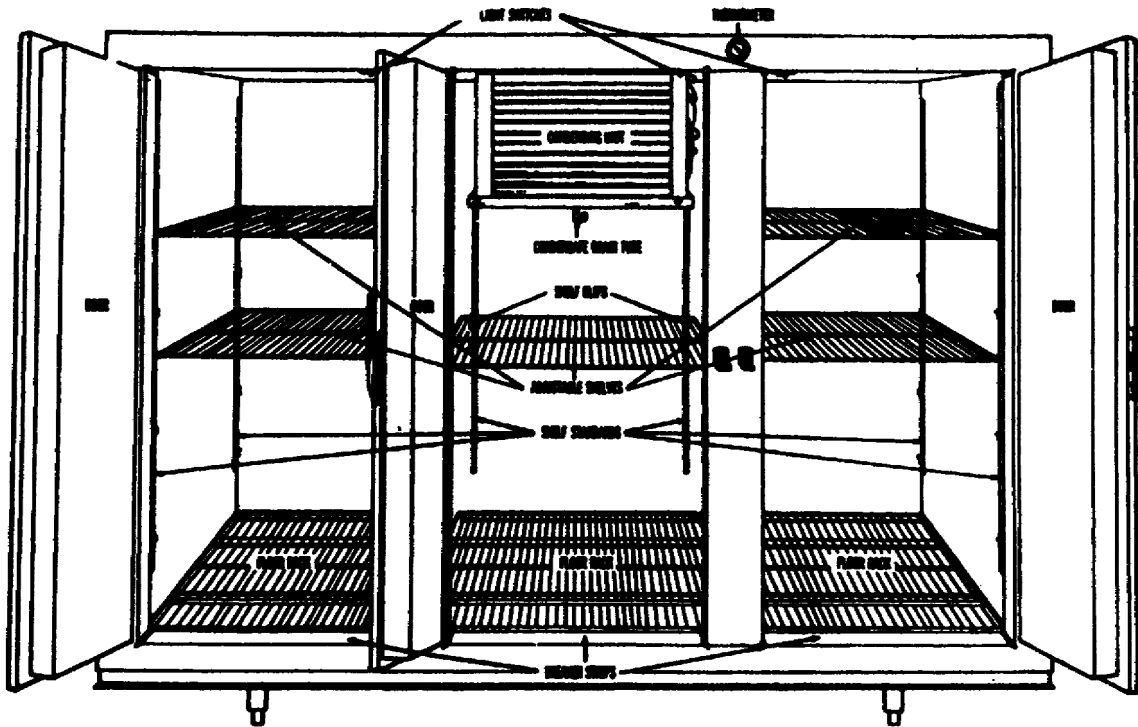
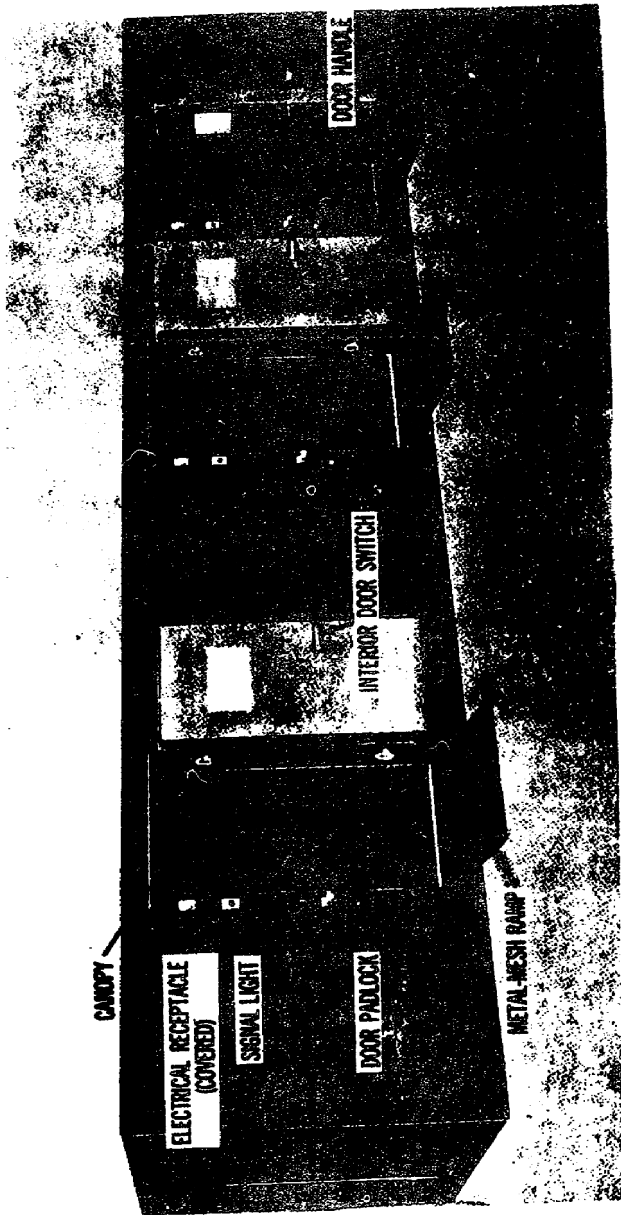

Figure 1. Interior of 65-cubic foot, reach-in refrigerator.
Figure 2. Three walk-in refrigerators linked together.
4. REFRIGERATORS. Two types of refrigerators are used in Army dining facilities. The reach-in type (fig. 1) has a 65-cubic foot capacity. It is a one-piece metal cabinet with adjustable shelves and from three to five doors and compartments. If walk-in refrigeration facilities have not been built in as a part of the dining facility, prefabricated walk-in refrigerators are authorized. These insulated structures, assembled from prefabricated panels, are cooled by either plug-in or remote-location refrigeration units. Prefabricated walk-in refrigerators (fig. 2) range from 400 to 1,600 cubic feet in size.